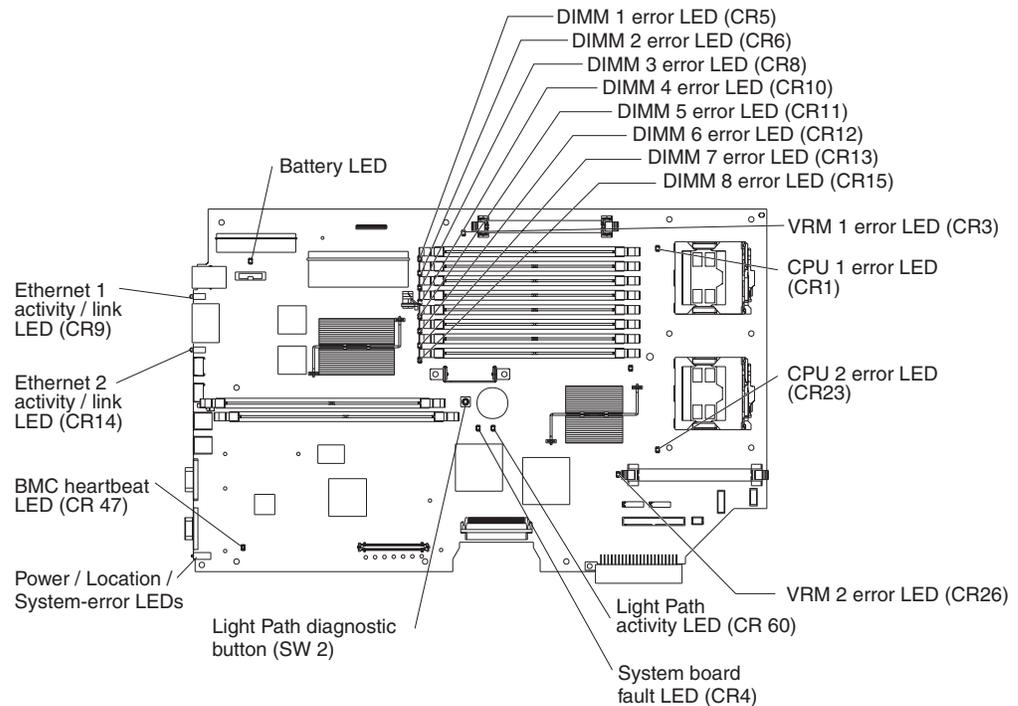

Figure 8. System-board LEDs
Many errors are first indicated by the illumination of the system-error light in the operator information panel on the front of the server (see “Server controls and LEDs” on page 6). If the system-error light is lit, one or more lights inside the server (see Figure 8) might also be lit that can direct you to the source of the error.
4. If the lit LED on the light path diagnostics panel refers to a specific internal component as indicated in step 3, look inside the server to check the lit LEDs on the system board (see Figure 8 on page 21). For example, a microprocessor error will light the LED next to the failing microprocessor.
If the BMC code in the server becomes damaged, the server might have difficulty restarting (rebooting). If the server does not turn on and the heartbeat LED (CR 47; see Figure 8 on page 21) is not on, you will need to force a BMC update.